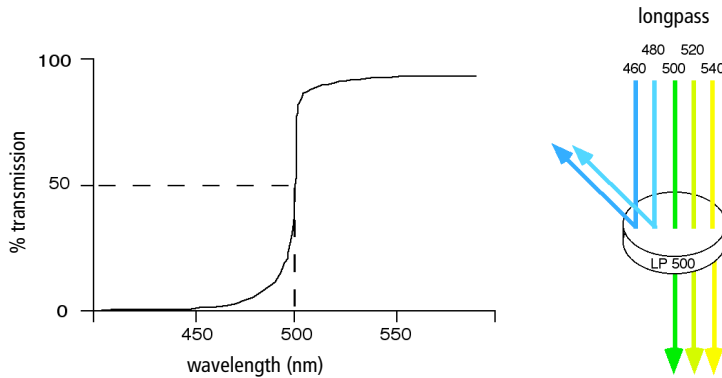

Figure 2-8 Light reflection by longpass filter
Longpass (LP) filters pass wavelengths longer than the filter rating and reflect shorter wavelengths. For example, a 500 LP filter permits wavelengths longer than 500 nm to pass through it and reflects wavelengths shorter than 500 nm (Figure 2-8).